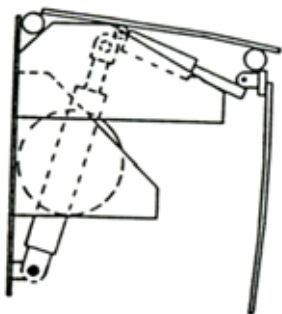
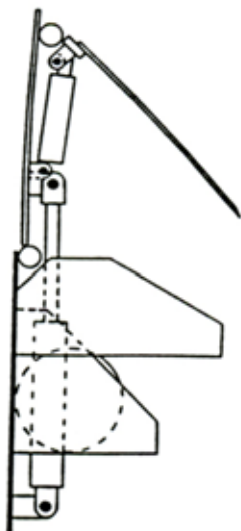

Figure 1
Figure 2
1. Always remove any end load while leveler is in stored position. (Figure 1).
4. To remove leveler from transport vehicle before departure, operate leveler RAISE (A) button until lip clears transport vehicle bed, folds up and returns, (Figure 2) then release button. Leveler will then return to stored position (Figure 1).